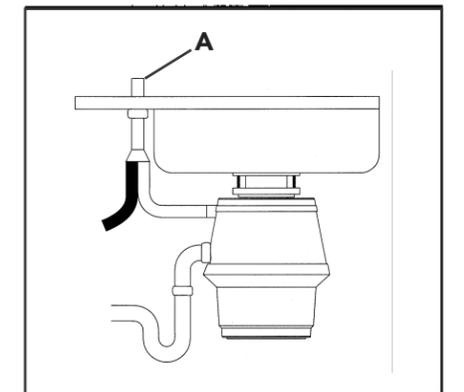

Figure 12-1
In some areas, codes require that the dishwasher be connected to the disposer through an air gap (A). (See Figure 12-1) (An air gap prevents waste water backflow and/or dishwasher contamination.) Ensure knockout plug is removed (see **Instruction 8**). Plumbing connections must comply with local plumbing codes.